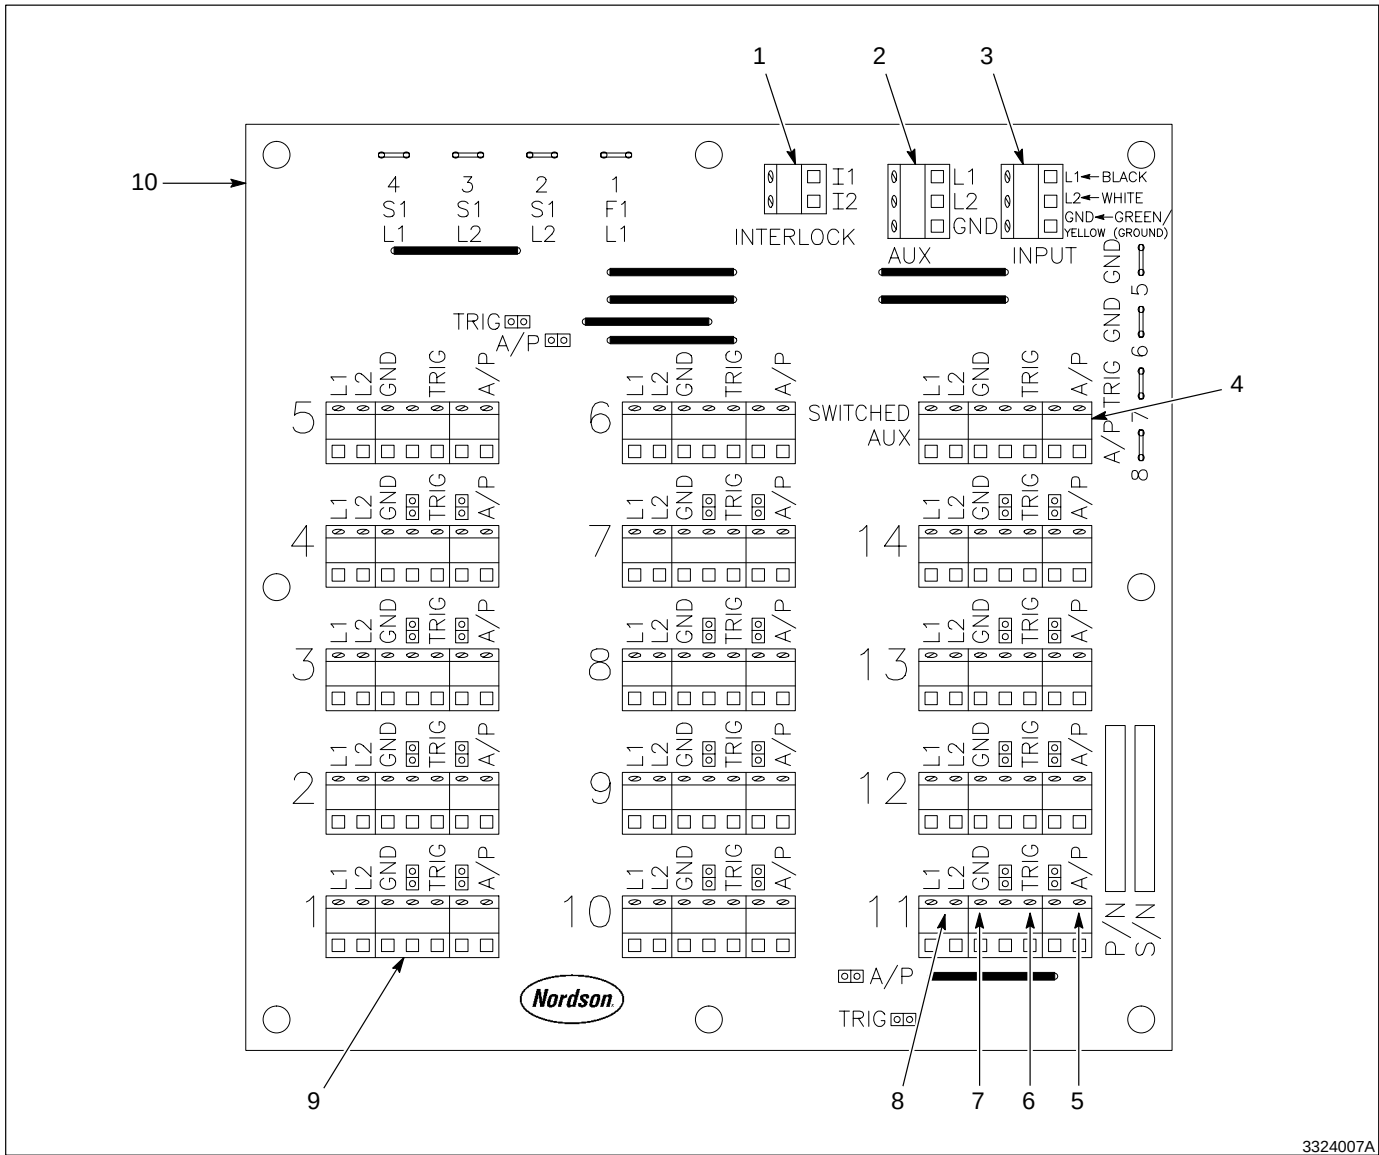

Fig. 3-2 Distribution Board
6. See Figure 3-2. Ensure the jumper is present in the interlock distribution block (1) on the distribution board.
2. See Figure 3-2. Ensure that all trigger TRIG (6) and flow A/P (5) jumpers are present in distribution blocks 1 through 14. There are a total of 28 jumpers.